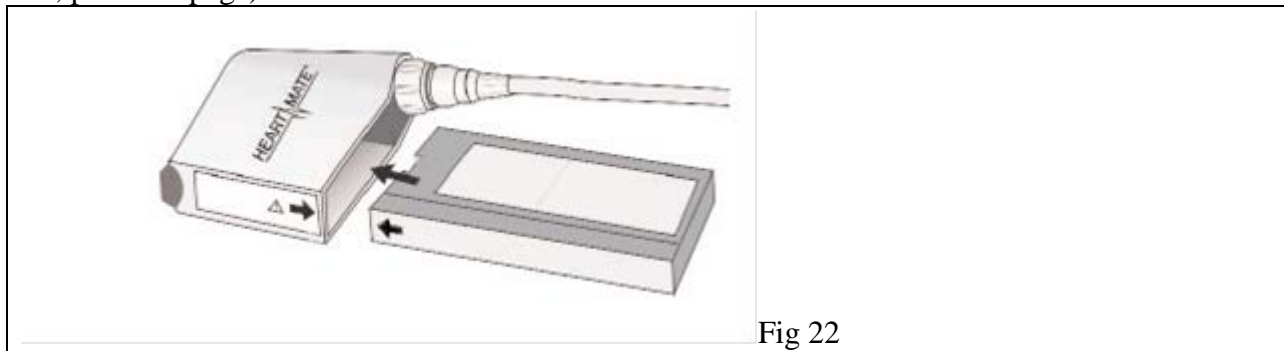

Fig 22
3 Place the 1st fully-charged battery into a battery clip by aligning the red arrows on the battery and clip and pushing the battery into the battery clip until it “clicks” into place (**Figure 22**). Repeat for the 2nd battery/battery clip.
- 5 Align the red arrow on the new battery and the red arrow on the battery clip (**Figure 22**; previous page).